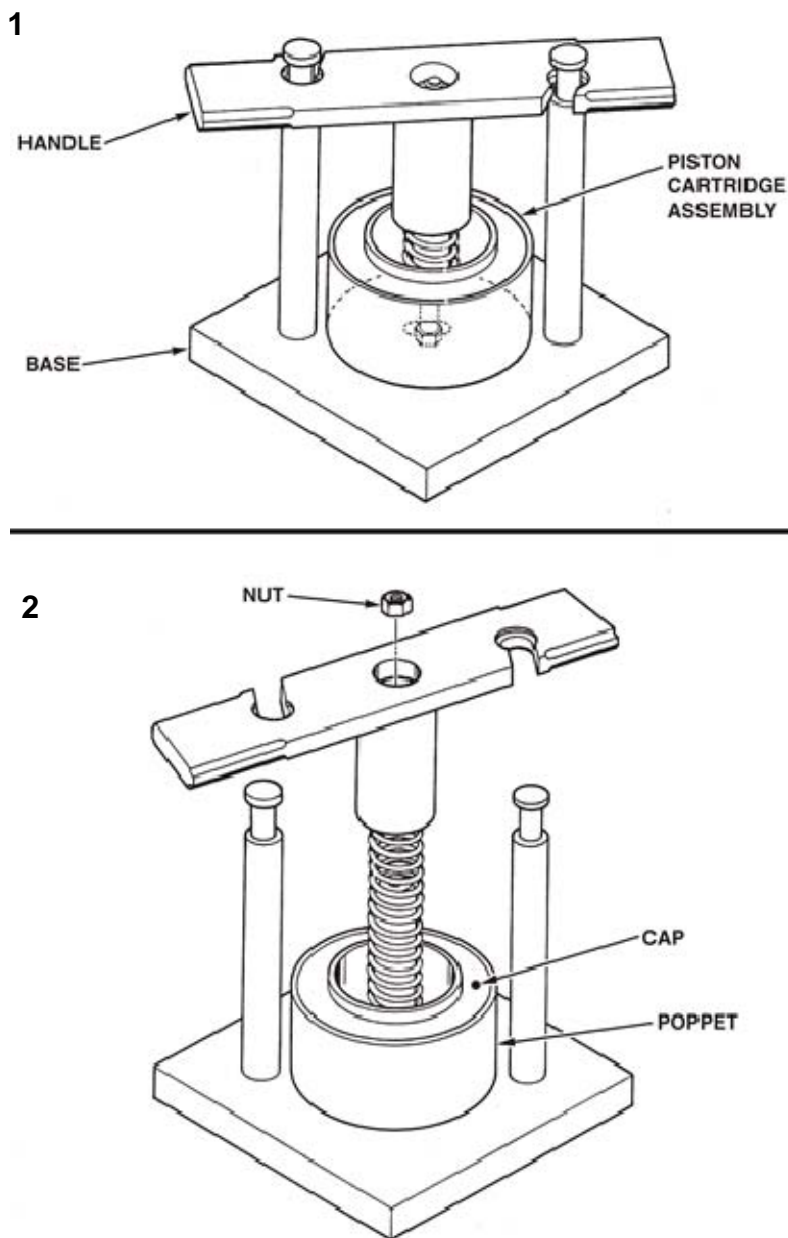

Figure 7. Assembly/Disassembly Holding Fixture
1. Install the piston cartridge assembly in the assembly/disassembly holding fixture (p/n 2878008) as shown in Figure 7. Slide the handle over the piston (10). Rotate handle to lock handle to the posts of the base.